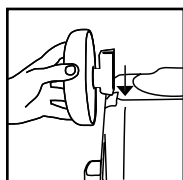

FIGURE 12
15. Slide axle housing into dovetail slot at rear of tank: axle housing is tapered and should slide into dovetail slot without excessive force. **FIGURE 12.** Tighten screw.